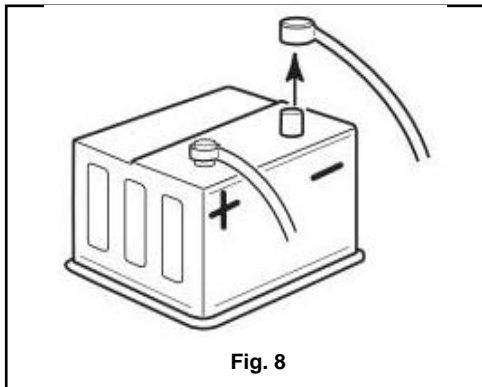

Fig. 8
- Disconnect the negative terminal (see Fig. 8)